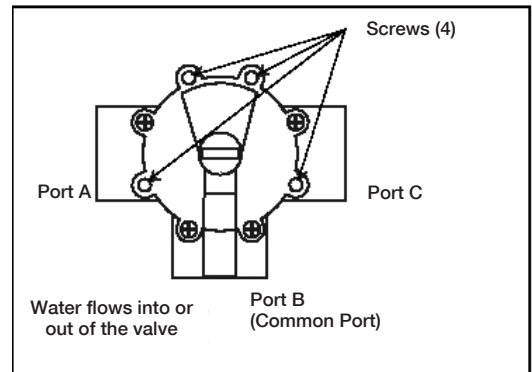

Figure 1. Standard Plumbing
2. With a Phillips screwdriver, remove the four screws from the valve body as shown in Figure 1.
Standard Plumbing - A three-port valve is the port B (middle) being the incoming (common) port and A and C ports are the outlet ports (see Figure 1).